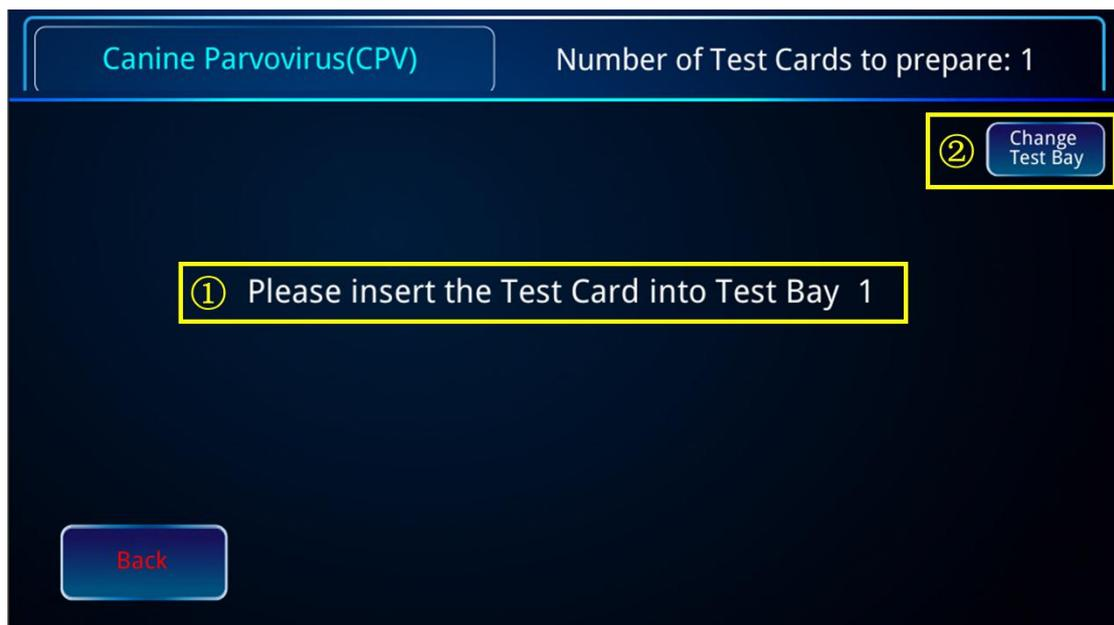

Figure 9 Operation Guide Page (Instruction for inserting the Test Card)
After confirming the Test Target selection, the screen will transition to the Operation Guide Page (Figure 9 ①). Follow the instructions on this page to insert the Test Card into the
Users can also choose another Test Bay to insert the Test Card by clicking "Change Test Bay" in the upper right corner of the Operation Guide Page (Figure 9 ②).